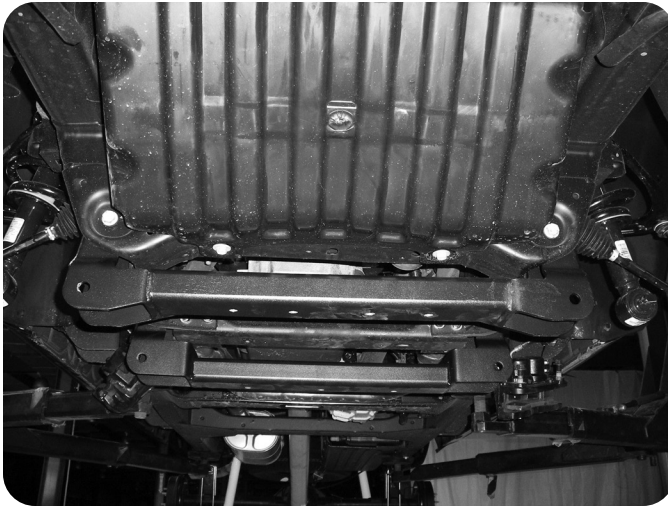

Figure 6
17. Install the front crossmember in the control arm pockets with the factory lower control arm bolts, nuts and washers. When installed the offset in the crossmember ends should be toward the front of the vehicle **Figure 6**. Run bolts from front to rear. Leave hardware loose.